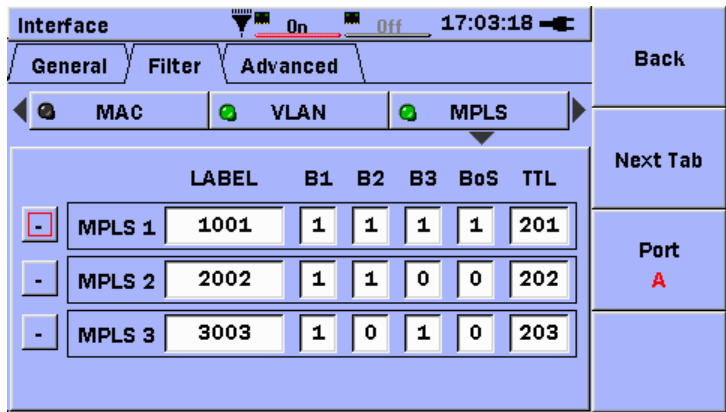

Figure 3.2.2-6 Interface Filter Setup Screen (MPLS Option)
If option MU909060/A1/A2/A3-004 (MPLS) is installed on the unit, it is possible to define up to three (3) MPLS filter in the same manner as described above. In this case, the MPLS filter setup pane will appear as shown in Figure 3.2.2-6 below.